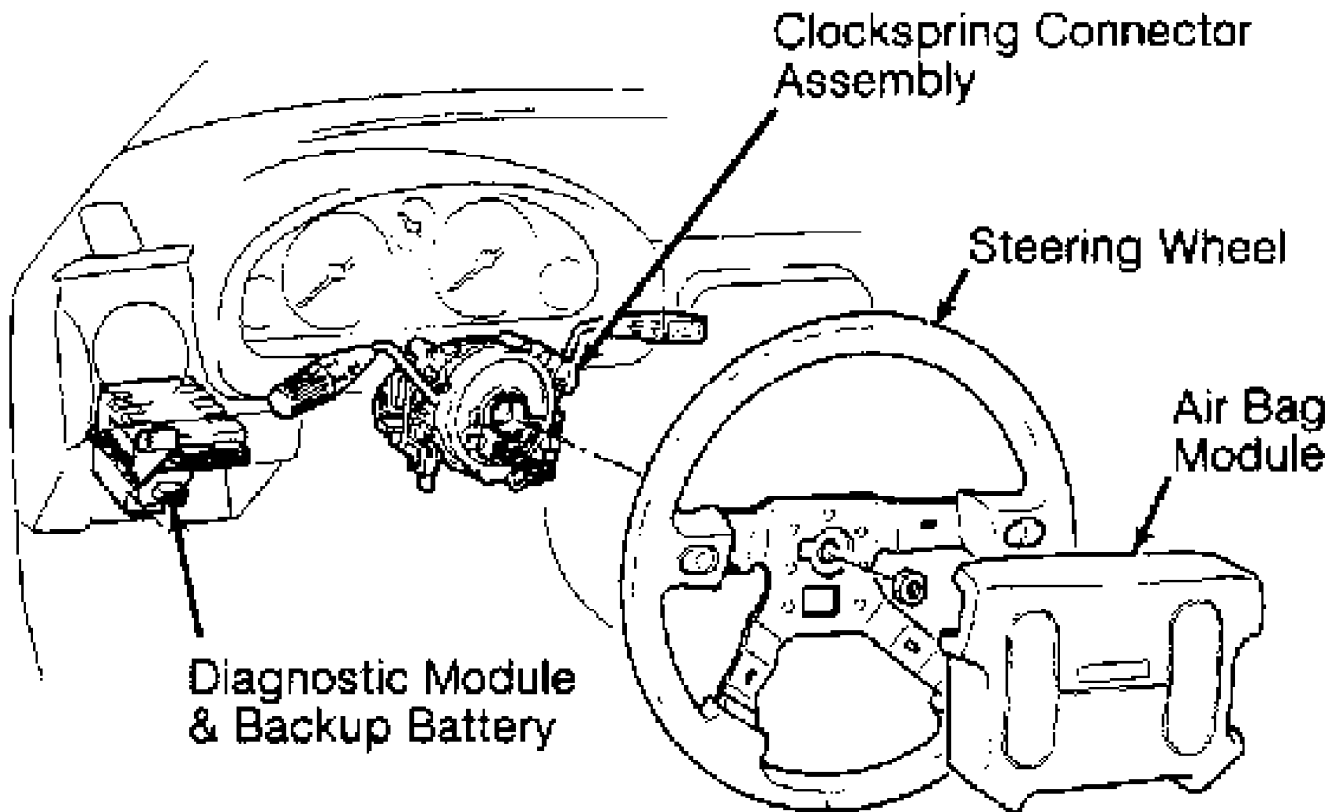

Fig. 4: Identifying Air Bag System Components (Miata)
2) Air bag module is located on center of steering wheel. See Fig. 4 or 5. Remove air bag module nuts and remove module from steering wheel. To install, reverse removal procedure. Tighten air bag module mounting nuts to specification. See TORQUE SPECIFICATIONS table. Reactivate air bag system. See DISABLING & ACTIVATING AIR BAG SYSTEM. Check AIR BAG indicator light to ensure system is functioning properly. See SYSTEM OPERATION CHECK.
2) Clockspring connector assembly is located under steering wheel, in steering column. See Fig. 4 or 5. Remove air bag module. See AIR BAG MODULE. Remove steering wheel nut and remove steering wheel with steering wheel puller. Remove column covers. Remove screws. Remove clockspring connector and combination switch as an assembly.
2) Diagnostic module and back-up battery is located under left side of instrument panel. See Fig. 4 or 5. Disconnect diagnostic module and back-up battery connectors. Remove nuts. Remove diagnostic module and back-up battery as an assembly. To install, reverse removal procedure. After diagnostic module and back-up battery are installed, reactivate air bag system. See DISABLING & ACTIVATING AIR BAG SYSTEM. Check AIR BAG indicator light to ensure system is functioning properly. See SYSTEM OPERATION CHECK.